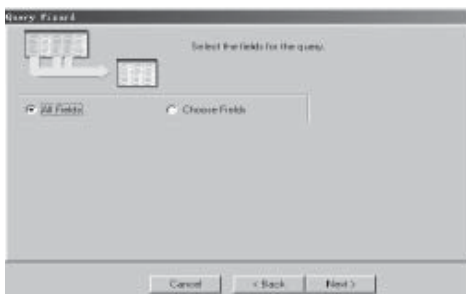

Fig. 8-6 Select the Fields
2.3 Choose the fields as in Fig. 8-6. **All Fields** means choosing all the fields and **Choose Fields** means choosing the wanted fields. Then click the **Next** button.
2.4 Select the Calculating Fields as in Fig. 8-6: **No Calculations** means no calculating fields and **Add Calculations** means adding the calculating fields. Then click the **Next** button.